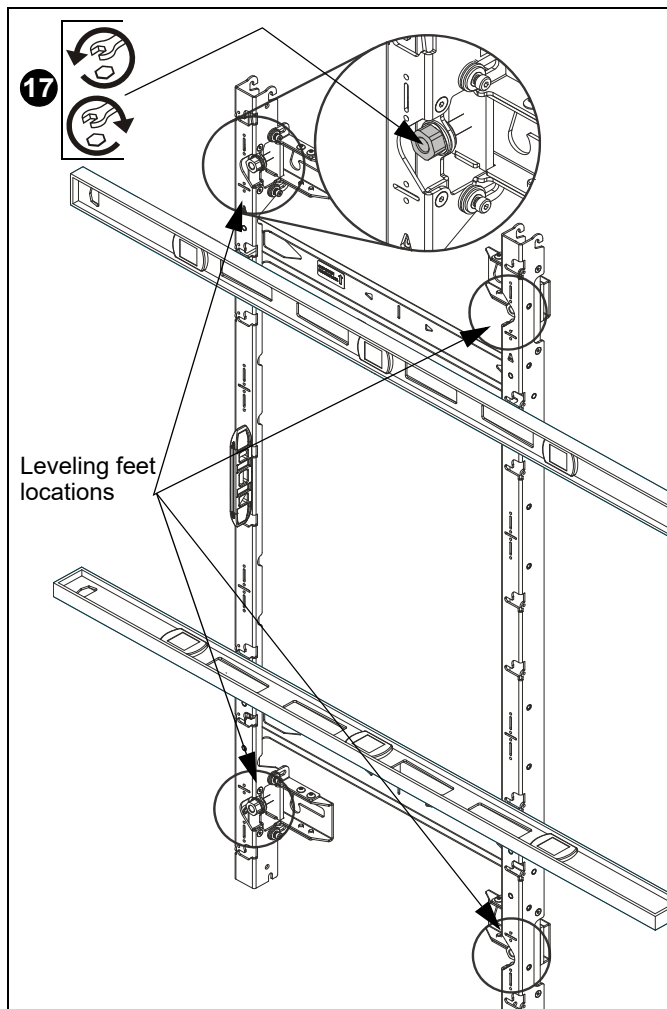

Figure 12
17. Using a level on the front of the mount in various places, use a 3/4" or 19mm socket and T-handle driver to adjust the leveling feet on the mount until the mount is plumb or even with something that is being used as a reference point. (See Figure 12)